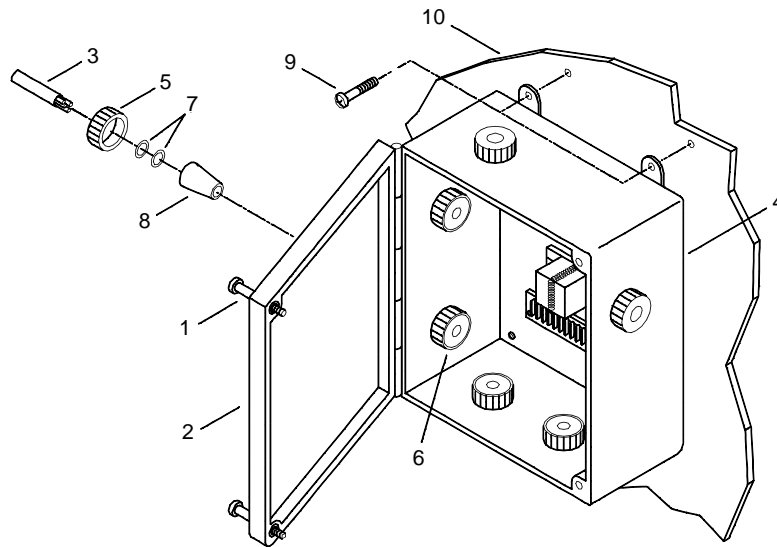

Figure 2. Personnel Shelter Head Electrical Junction Box
2. Loosen two screws (figure 2, item 1) and open enclosure cover (figure 2, item 2).
3. Remove wiring (figure 2, item 3) from junction box (figure 2, item 4).
- a. Label and disconnect wiring (figure 2, item 3).
- b. Unscrew stuffing tube cap (figure 2, item 5) from stuffing tube (figure 2, item 6).
- c. Remove wiring (figure 2, item 3) from stuffing tube (figure 2, item 6) and retain cap (figure 2, item 5), plastic washers (figure 2, item 7) and preformed packing (figure 2, item 8) on end of wiring (figure 2, item 3).
4. Remove four screws (figure 2, item 9) securing junction box (figure 2, item 4) to wall (figure 2, item 10).
5. Remove junction box (figure 2, item 4).
1. Position junction box (figure 2, item 4) on wall (figure 2, item 10) and secure with four screws (figure 2, item 9). Tighten screws (figure 2, item 9).
2. Install wiring (figure 2, item 3) in junction box (figure 2, item 4).
- a. Slide wiring (figure 2, item 3) into stuffing tube (figure 2, item 6) and into junction box (figure 2, item 4).